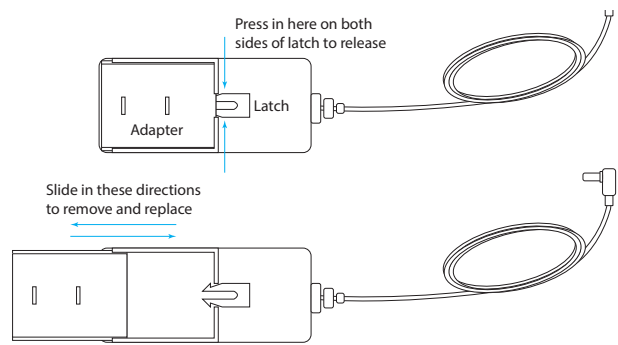

Fig. 3
1. Replace a power adapter to match your country's outlet by using your thumb and forefinger to squeeze in on both sides of the latch (see Fig. 3).